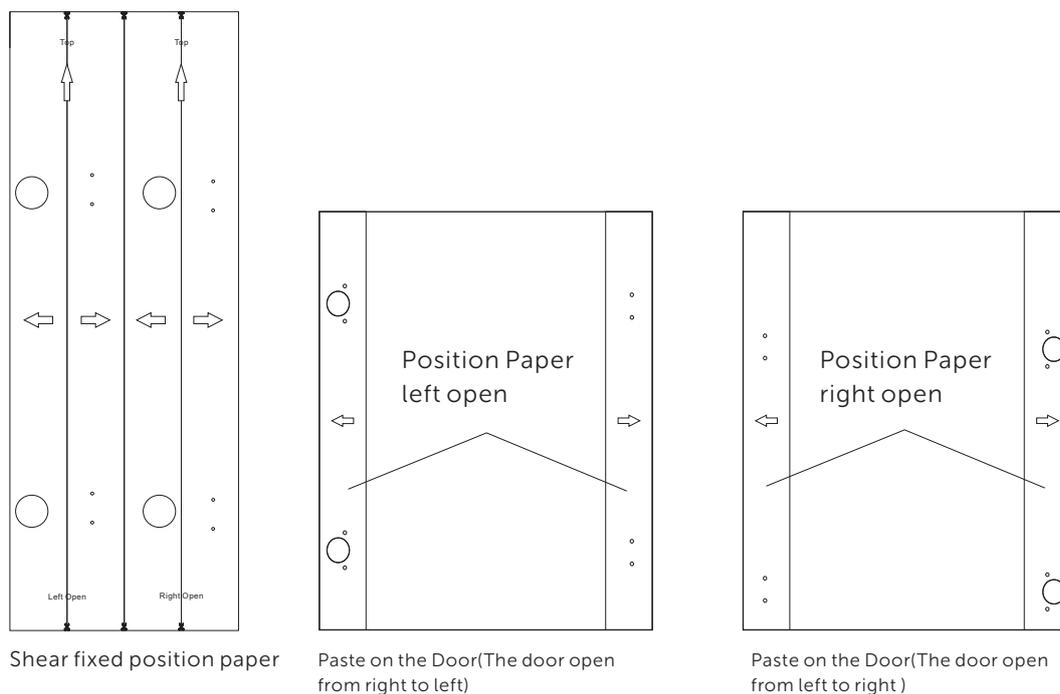

Fig11
2.Fixed position paper on the door.(Fig 11)